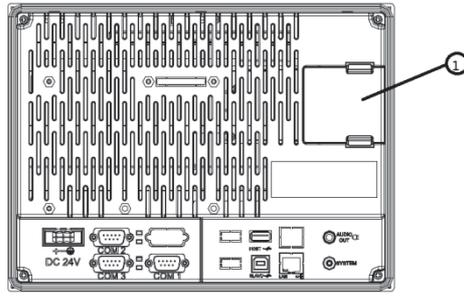

Fig. 10-9 HMI internal battery changing
Replace HMI internal battery: open the battery cover ① at the back side of HMI, as Fig. 10-9, replace the battery (3V lithium battery, CR2032×1) .